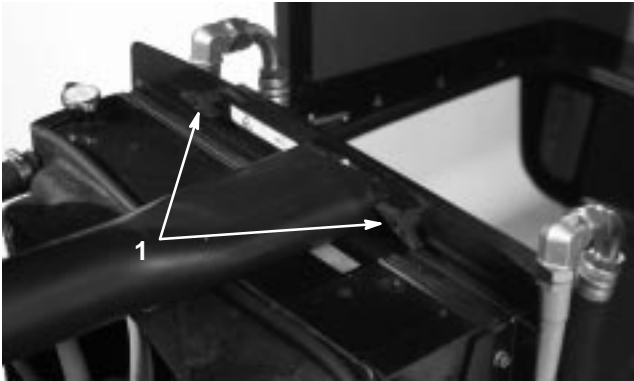

Figure 53
2. Remove the knobs (Fig. 53) securing the oil cooler to the frame.